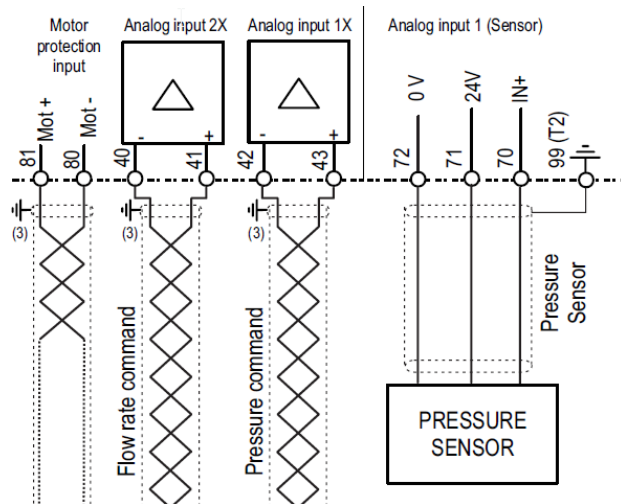

Figure 3: recommended connection of shielding
- (1) ADP2075 ... 4300: Integrated choke on DC link.
- (2) Connect resolver shield directly to chassis as shown on fig. 3
- (3) Connect the shields of Motor protection, Analog Input 1/2X and Analog Output signals directly to chassis (or to terminal 99 of T3 strip) as shown on figure .